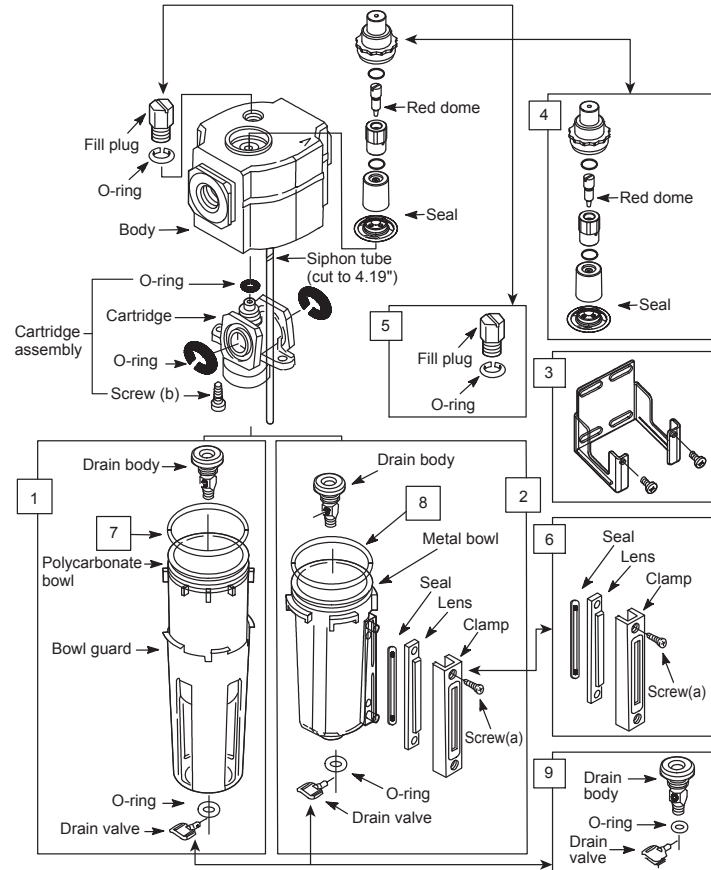

figure 2
OPERATING INSTRUCTIONS (See Figure 2)
- Disassembly (See Figure 2)**
- Disassemble in general accordance with the parts illustrated in Figure 2. Do not remove the drain unless replacement is necessary. Remove and replace only if drain malfunctions. Do not remove the siphon tube. Remove and replace cartridge assembly only if lubricator malfunctions.
- Cleaning(See Figure 2)**
- Assembly (See Figure 2)**
- Assemble lubricator as shown on Figure 2.